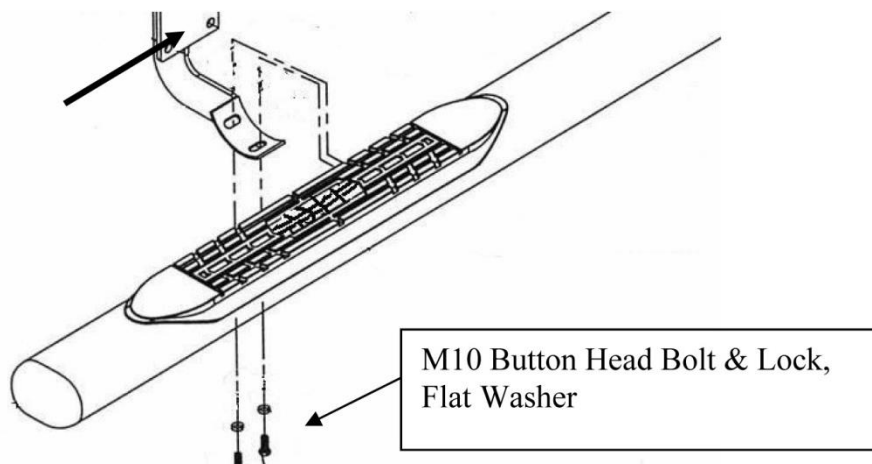

Figure 4. Installation View of Bracket & Bar
4. Assemble with M10 button head bolts and M10 washers. 2 bolts per bracket, 4 bolts per bar. Fig. 4.